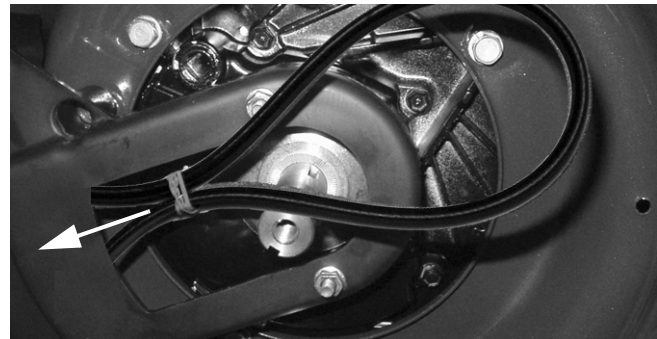

FIGURE 7
10. Feed the belt, larger loop end first, through the opening in the baffle as shown in Figure 7.